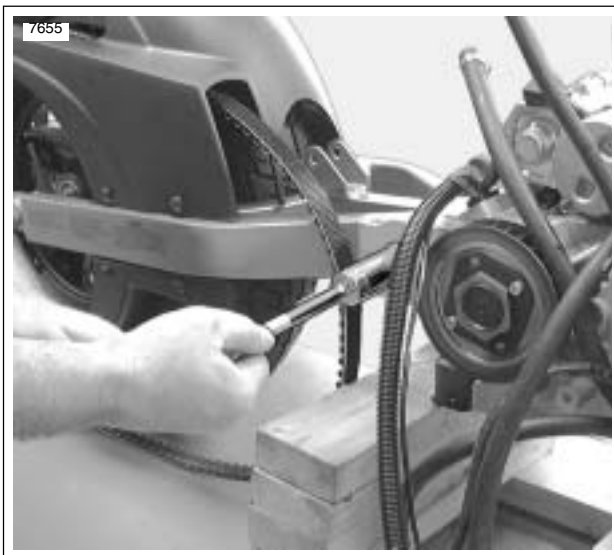

Figure 3-22. Swingarm Pivot Shaft
4. See Figure 3-22. Install swingarm, pivot shaft and rear wheel as an assembly and tighten pivot shaft to 24-26 ft-lbs (32-35 Nm). See 2.19 SWINGARM.